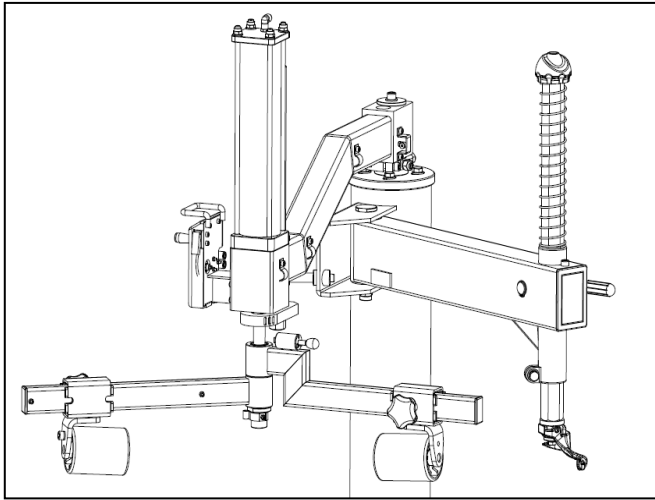

FIG8
2.5 connect the rotation arm (FIG7-1) and fixed arm (FIG7-2) using the press arm rotation shaft which removes in the step 2.4. Pay attention to the position of the two arms. Then insert the shaft to the hole at the bottom of the cylinder and fix it like FIG8.